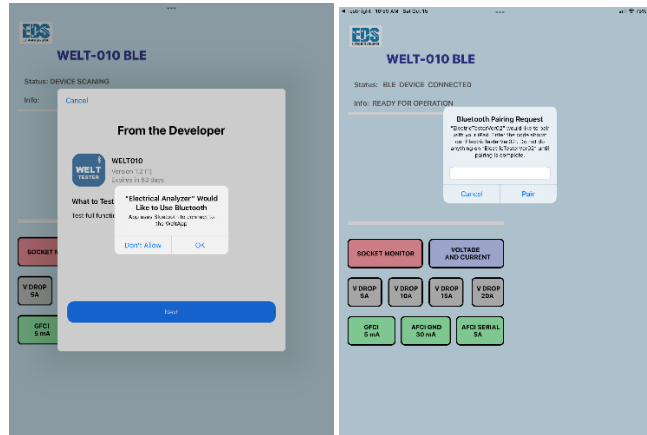

Figure 13 Startup screenshots
- Allow to use Bluetooth (see Figure 13)
- Allow Pairing with WELT-010 (see Figure 13)